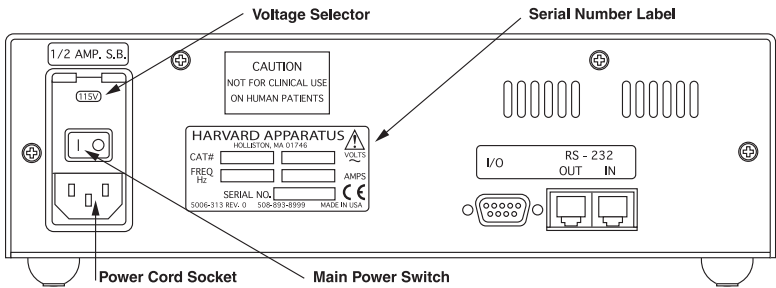

Figure 4. Rear Panel: Voltage Selector and Serial Number Label
2. If the operating voltage is other than 115VAC, 60Hz, locate the voltage selector on the rear panel (See Figure 4) of the pump and set it to the voltage being used. Also, if other than 115 V, 60 Hz is being used, the plug must be cut off and an appropriate plug installed, observing the polarity of the international line cord used:
3. Take this opportunity to fill out and mail the Warranty Card. The Catalog and Serial numbers are located on the Serial Number label on the rear panel. Refer to Figure 4.
4. Turn on main power switch (See Figure 4) located directly above the power cord receptacle on the rear panel. The two-line display will illuminate indicating that the power connections are correct. The flashing display indicates that power has just been applied. Pressing any key will reset the blinking display to constant illumination.
6. To change the Voltage setting from 115V to 230V, turn off the Main Power switch (0) and remove the power cord. Pry open the access door using a small screwdriver. Refer to (A) in Figure 4.